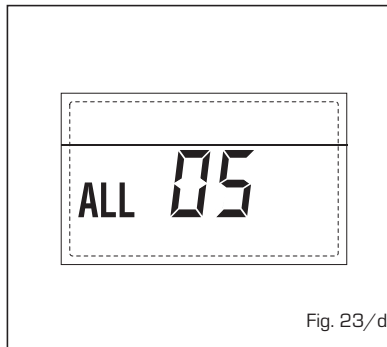

Fig. 23/d
- LOCKOUT ALARM 06 (fig. 23/e)